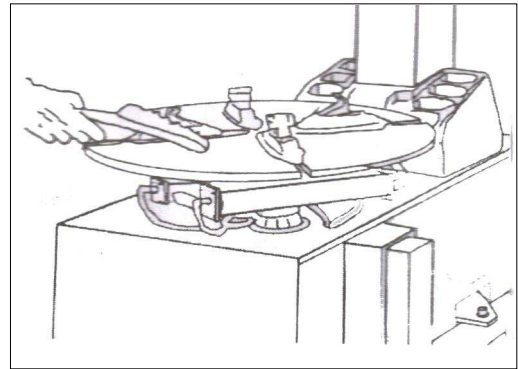

Fig. 26
- Use the diesel oil to clean the turntable claw and its guide and use the lithium base oil to lubricate (Fig. 26).